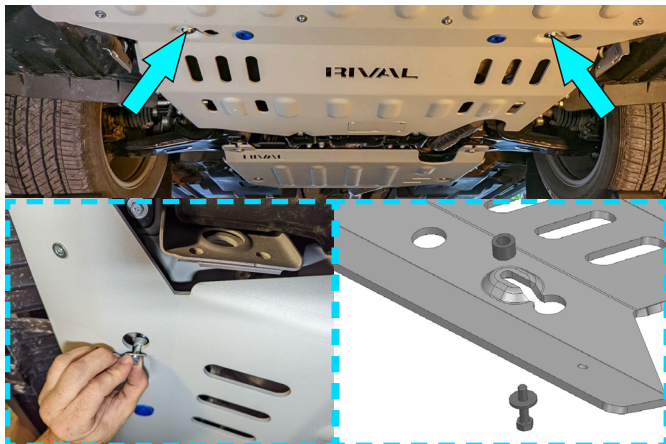

Fig. 5
5. Insert bolts M8x30 (item D), washers 8 (item G) and spacers 0.43inch (11mm) (item A) into holes in front part of engine skid plate (item 1) (Fig.5).